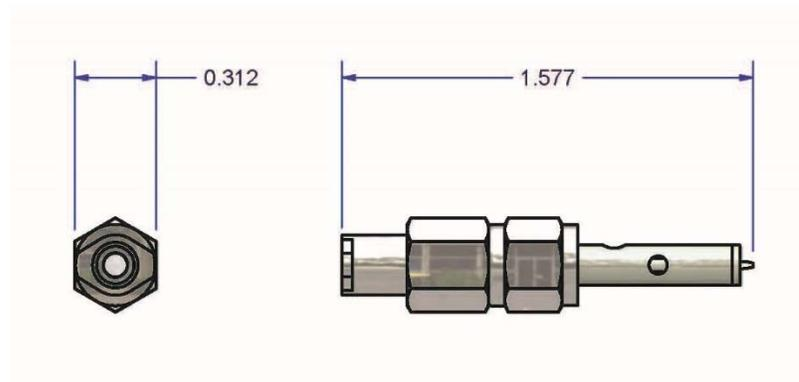

Figure 1 - Physical Dimensions of MJ-AL-01 (in inches)
- Physical dimensions are shown in Figure 1.